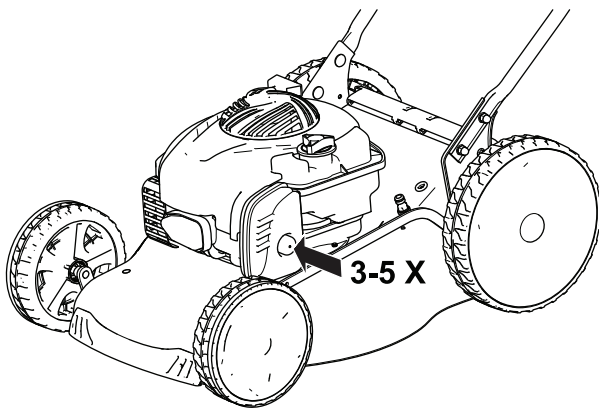

Figure 14
1. Press the primer bulb 3 to 5 times (Figure 14).